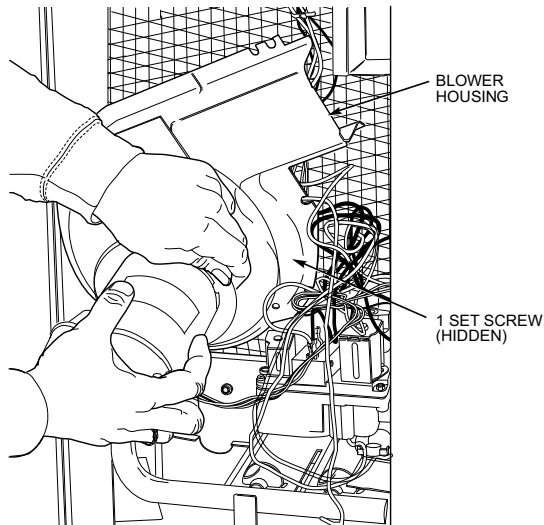

Fig. 35 – Removing Inducer Assembly
15. Remove 5 screws holding Inducer Assembly (see Fig. 35) and remove assembly.